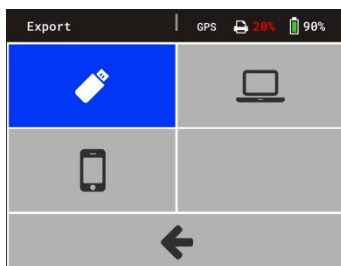

Figure 25
- Select within measuring instrument under menu measured data  / export  the transfer mode  (Figure 25) and confirm with  key.